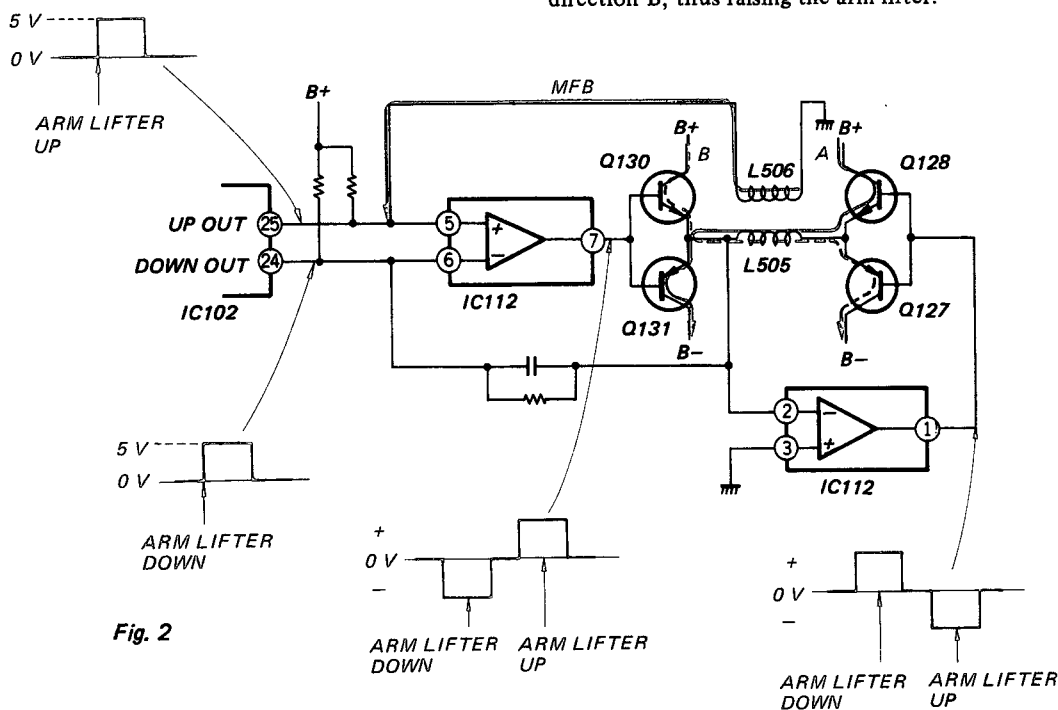

Fig. 2
**1-4-2. Arm Lifter Raising/Lowering Circuit (see Fig. 2):**